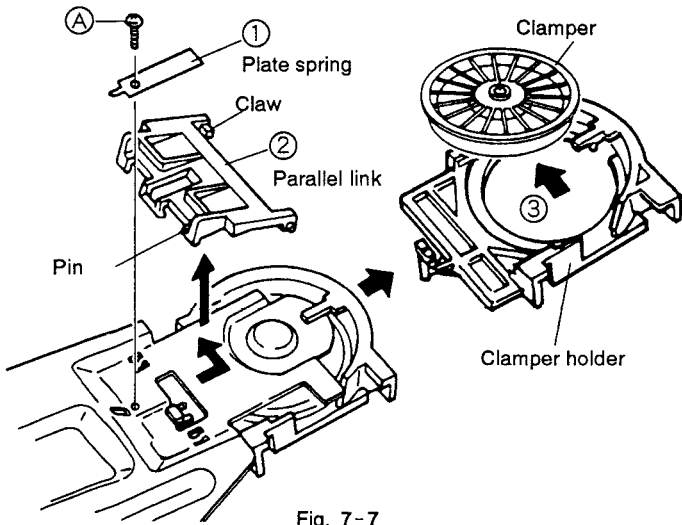

Fig. 7-7
**7.5 REMOVING THE CLAMPER (Fig. 7-7)**
- ① Remove the plate spring by unscrewing screw (A).
- ② Remove the parallel link by sliding it in the direction of the arrow. (Be careful not to damage the claw located on one side of the link.)
- ③ The clamber can be removed by sliding the clamber holder in the direction of the arrow.